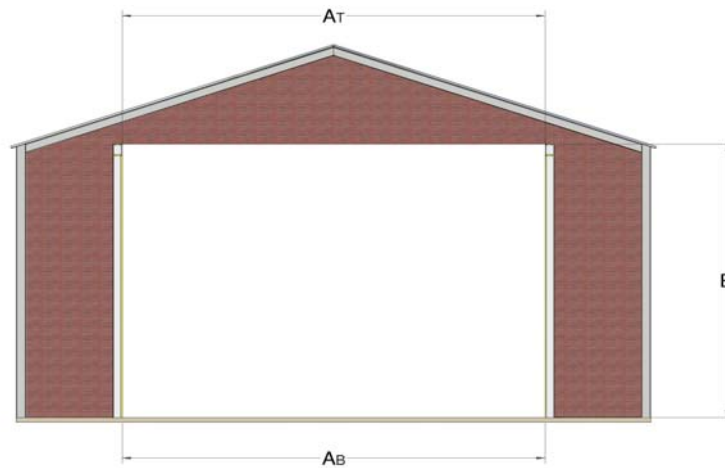

Figure 1b
2. Doors are designed to the following tolerances, Figure 1b refers: